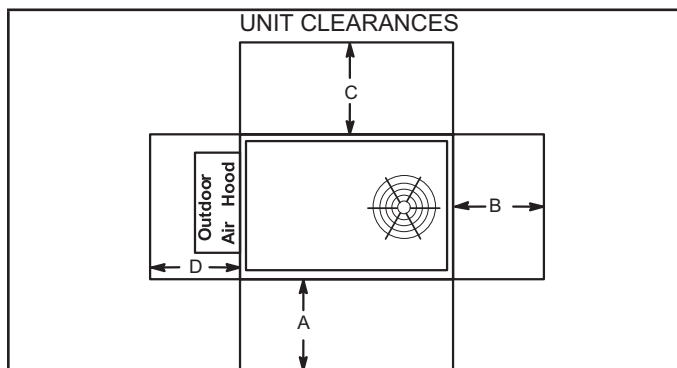

FIGURE 1
See FIGURE 1 for unit clearances.
- 2 - Specified installation clearances must be maintained when installing units. Refer to FIGURE 1.